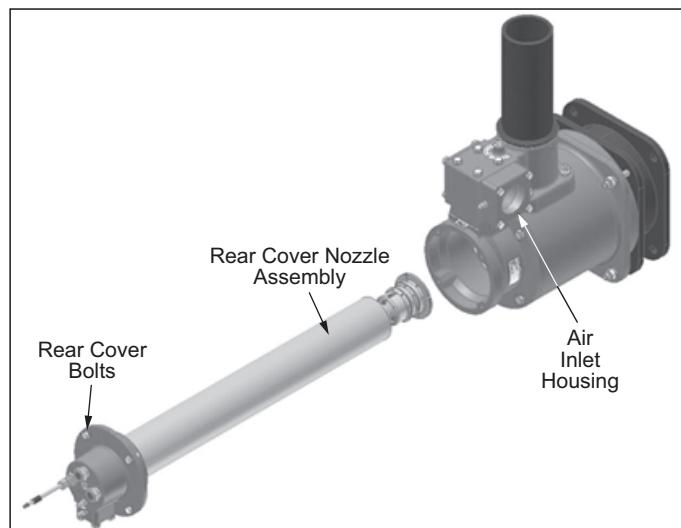

Figure 3.9
1. If already assembled, remove the rear cover assembly by removing rear cover bolts. See Figure 3.9.
3. Slide the rear cover nozzle assembly through the air inlet housing and into the combustor assembly. See Figure 3.9.